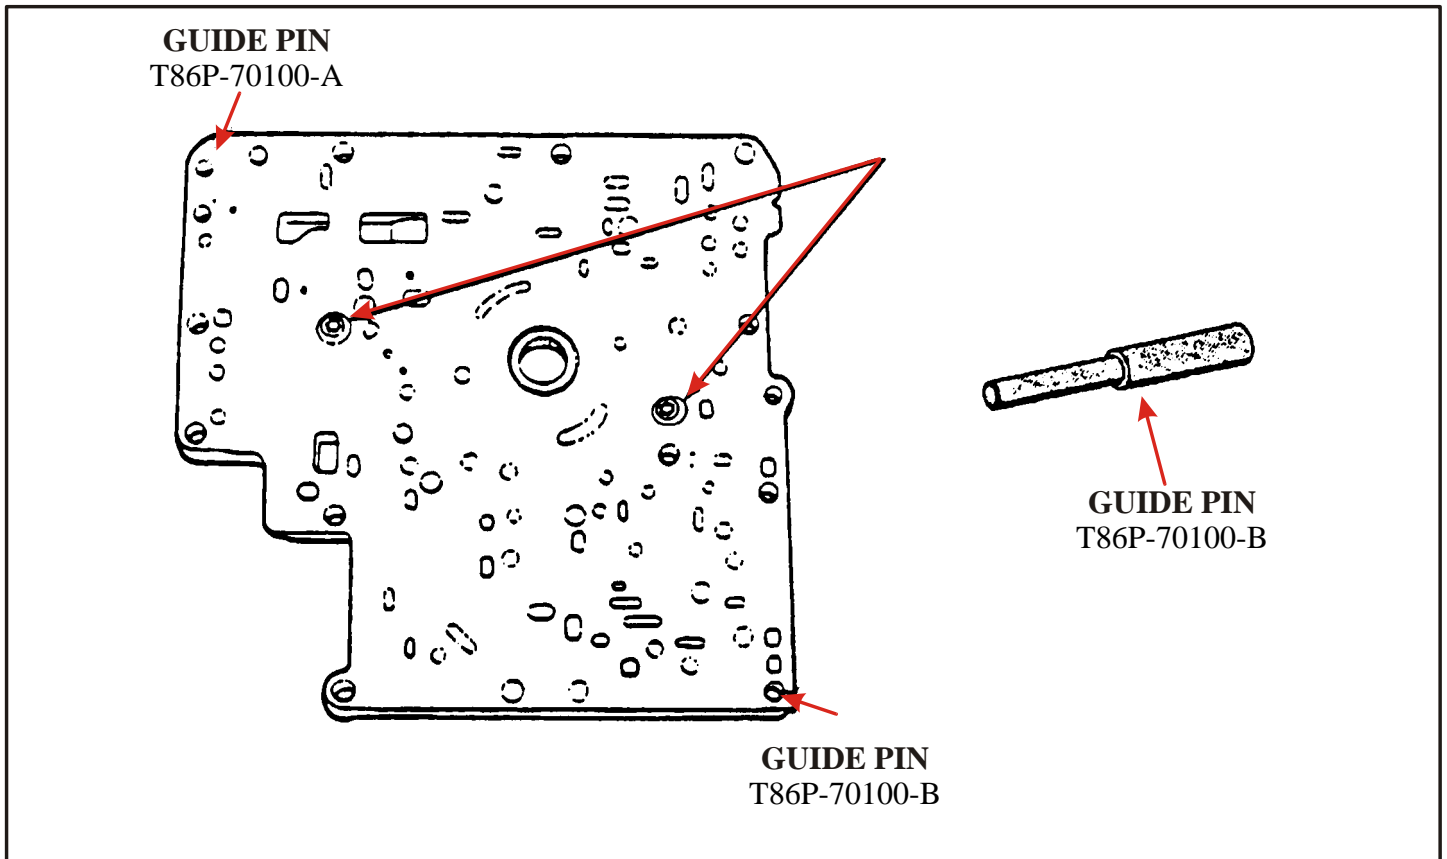

Figure 1
2. Insert valve body guide pin T86P-70100-A (.271" Diameter and valve body guide pin T86P-70100-B (.262" Diameter) as shown in Figure 1.